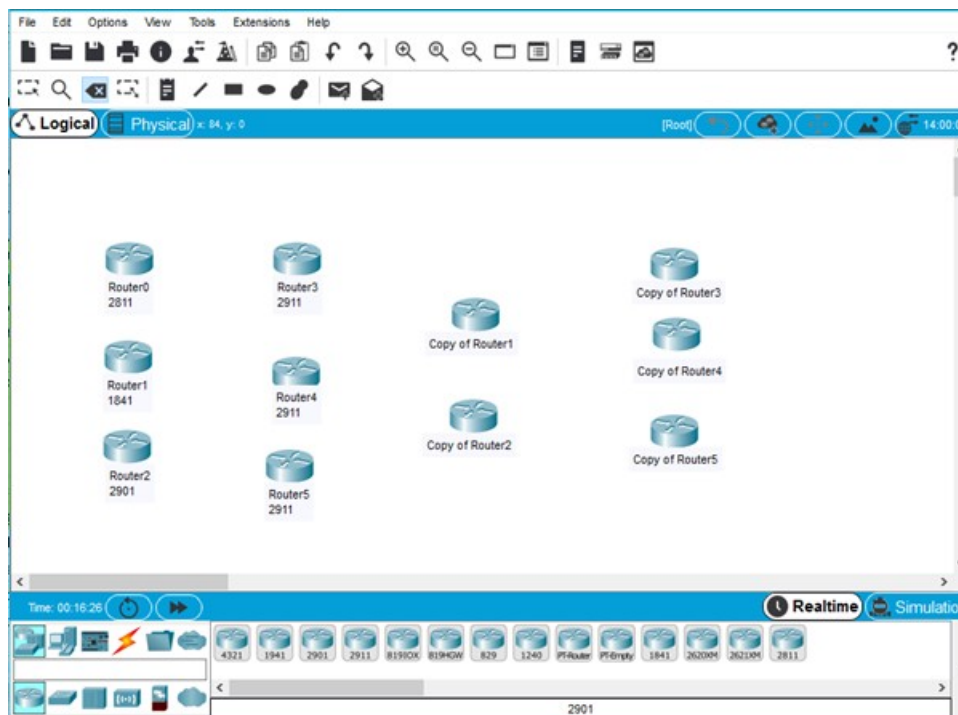

Figure 2.8: Sample final layout with various routers placed in the workspace.
- Your workspace might look similar to Figure 2.8, with routers (and possibly switches) positioned at the labeled locations.